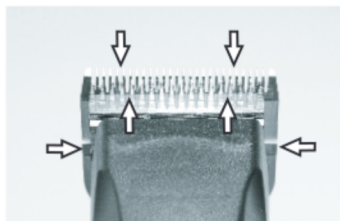

Fig. 24
To receive good clipping results and to increase the durability of the clipper and the clipperhead, it is necessary to apply a thin oil coat between top and bottom blade (fig. 24).
- ▶ Lubricate the blades sufficiently during the clipping (at least every 15 minutes), so that they do not drain (fig. 24).
The blades must be oiled before, during and after every use. When the blades of the clipper are leaving stripes, this is a signal that oil is required. Place a few drops of oil ahead and laterally on the clipper blades (see arrows in fig. 24).